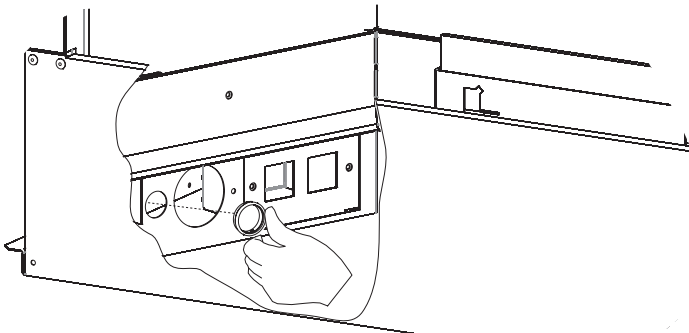

Figure 44
8. Install a plastic bushing in both the liner and outer walls of the fireplace. (See Figure 44 & 45)